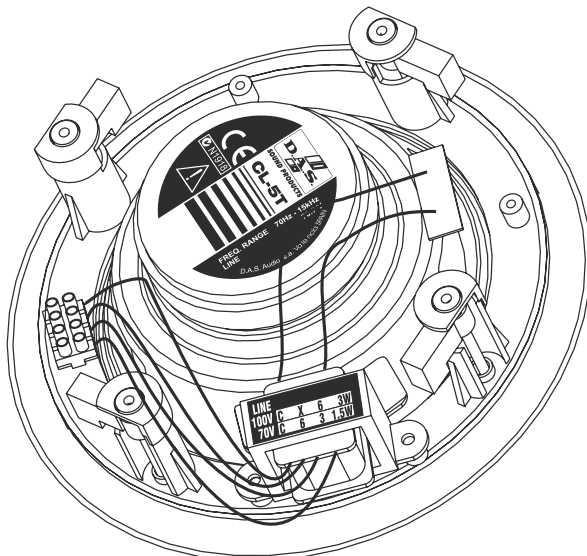

Fig. 7 – CL-5T; input power selection terminals
**Step 3 – Terminal connection:** the speakers terminals are spring loaded. Watch the colour coding for polarity. For connection to transformer models, you will need to select the required input power and connect to the appropriate terminals (see Fig. 7).